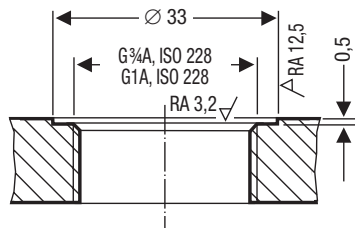

Fig. 11
1. Check seating surfaces, **Fig. 11**
- The seating surfaces and threads on the vessel and mounting flange must be accurately machined, **Fig. 11**